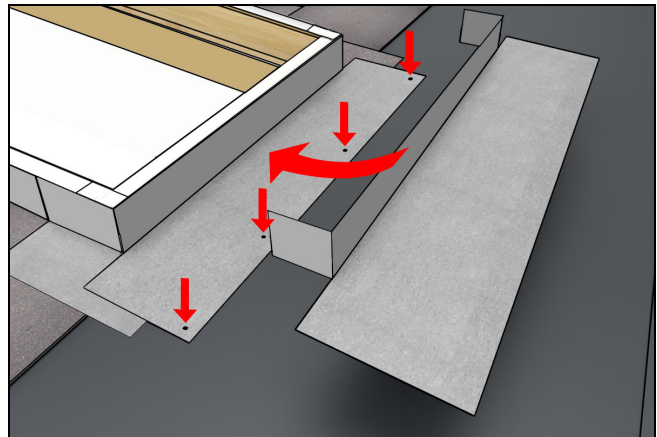

Figure 40
11. Head jamb saddle centered installed with tabs bent around jamb step flashing. See Figure 40.